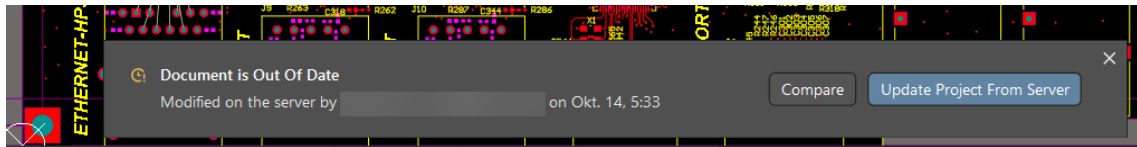

Figure 22. File is out of date
54. Altium detects that the local files are out of date, Figure 22.